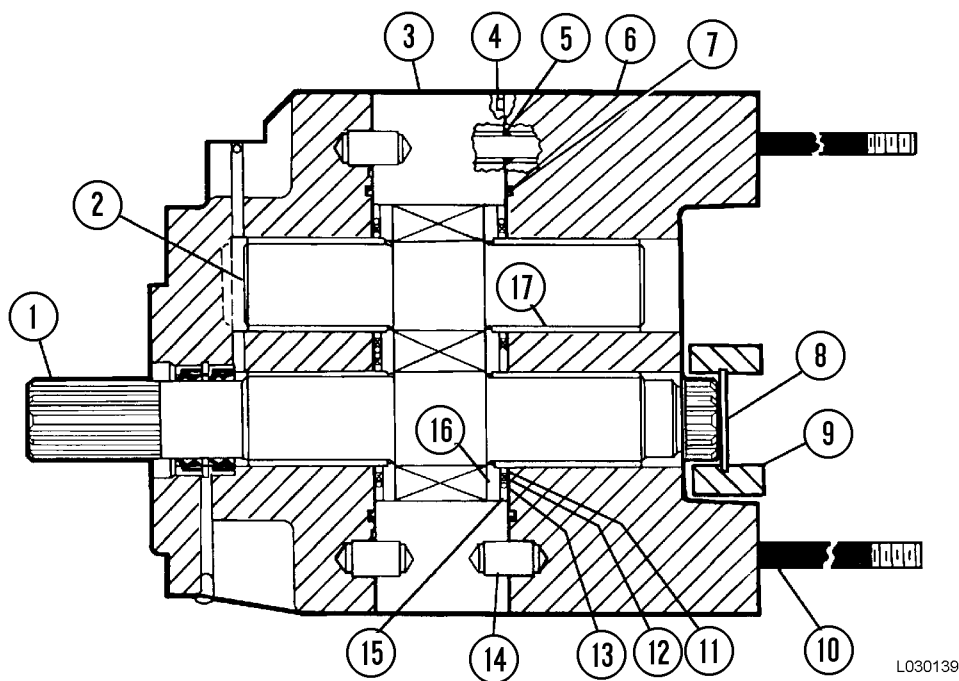

FIGURE 3-14. HOIST PUMP REASSEMBLY
15. Install steel rings (11, Figure 3-14), backup ring (12), O-ring and retainer (13). Install isolation plate with its relief toward the pressure plate.
16. Lubricate and install thru stud O-rings (5) and connector plate O-ring (7). Install dowel (14) if removed. Lubricate the inside diameter of bearings (17) and install connector plate (6). Install snap ring (8) and coupling (9).